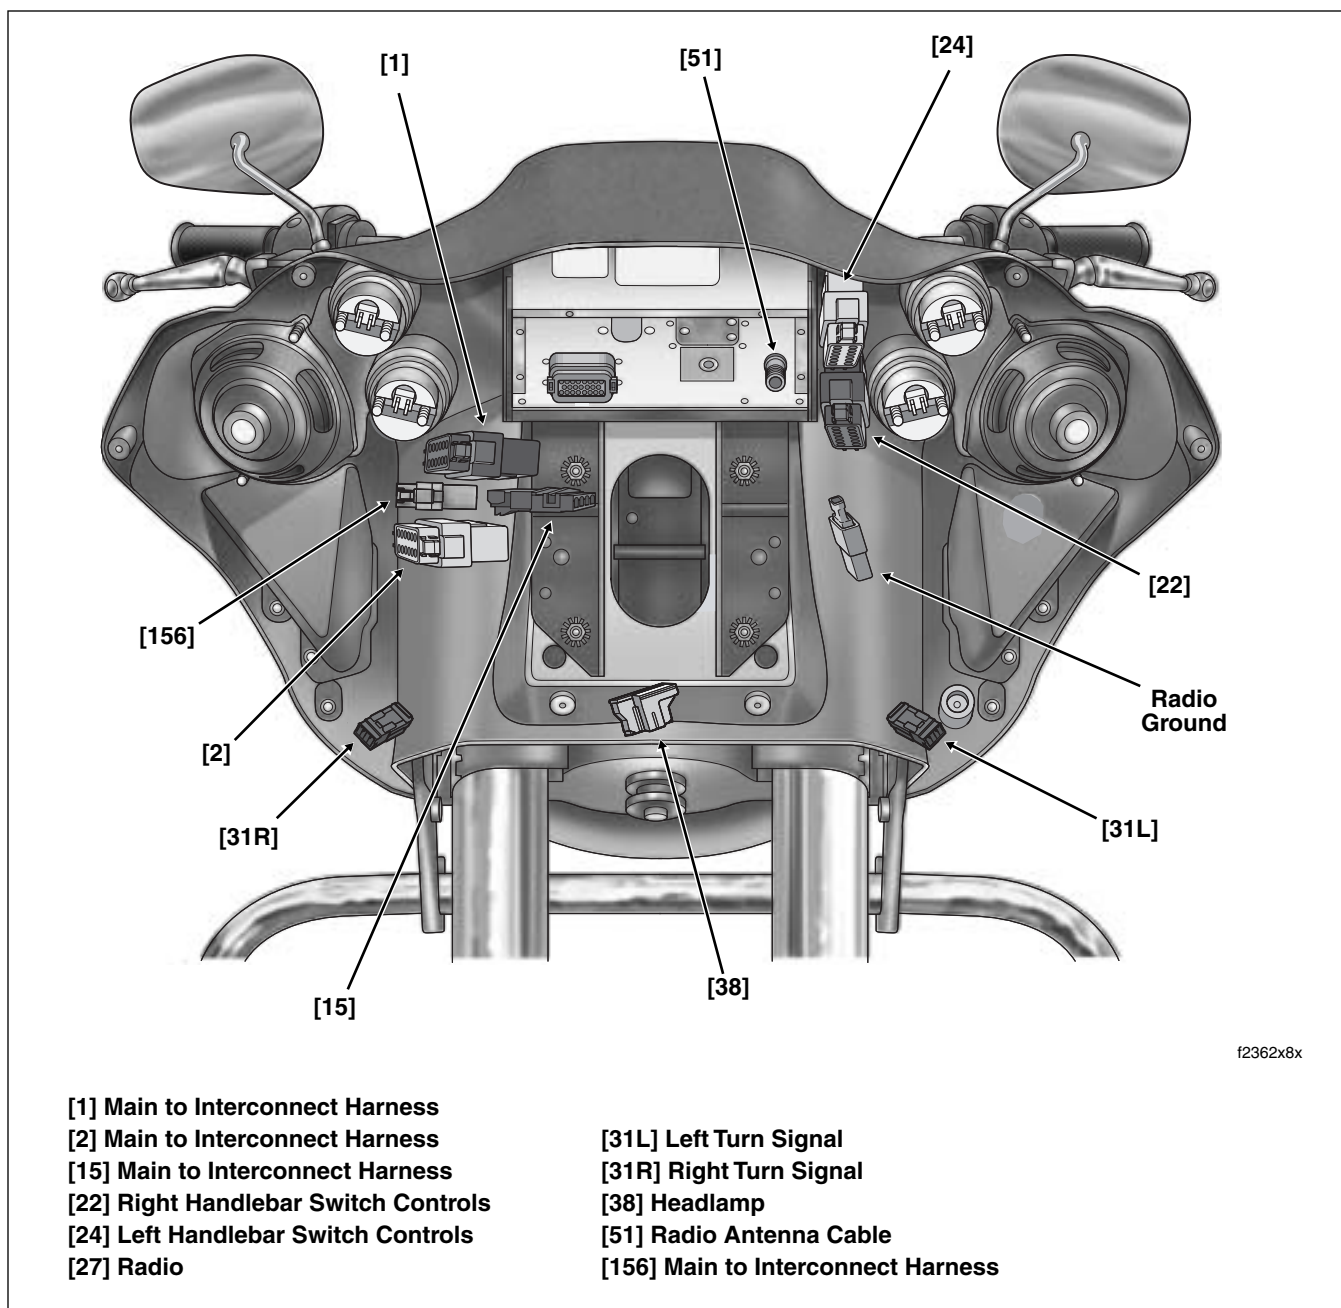

Figure 2-179. Inner Fairing Connectors (FLTR)
- 7. See Figure 2-179. Disconnect instrument nacelle switches from interconnect harness as follows:
- 2. See Figure 2-179. Connect instrument nacelle switches to interconnect harness as follows:
4. See Figure 2-179. Connect left side switch to instrument nacelle switch harness as follows:
4. See Figure 2-179. Disconnect main harness from interconnect harness as follows:
5. See Figure 2-179. Disconnect radio antenna cable and radio ground wire. Proceed as follows:
6. See Figure 2-179. Disconnect handlebar switch controls from interconnect harness. Proceed as follows:
16. See Figure 2-179. Connect handlebar switch controls to interconnect harness. Proceed as follows:
17. See Figure 2-179. Connect main harness to interconnect harness as follows:
18. See Figure 2-179. Connect radio antenna cable and radio ground wire. Proceed as follows:
19. Orient connectors as shown in Figure 2-179. Install two **new** cable straps outboard of radio bracket hooks to secure wire bundles and conduit to convoluted tubing of interconnect harness. Cut any excess cable strap material.